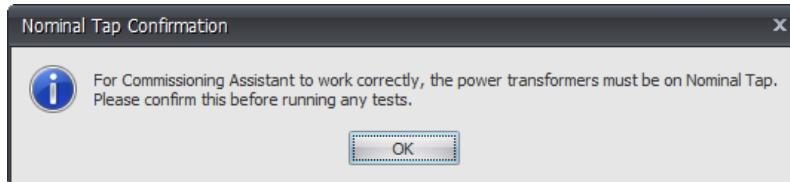

Figure 7.37 Nominal Tap Position Reminder
Step 12. Click the **Run Test** button and note the message shown in *Figure 7.37*. Commissioning Assistant uses the voltage ratio to calculate certain quantities, so please ensure that the transformer is on the nominal tap.